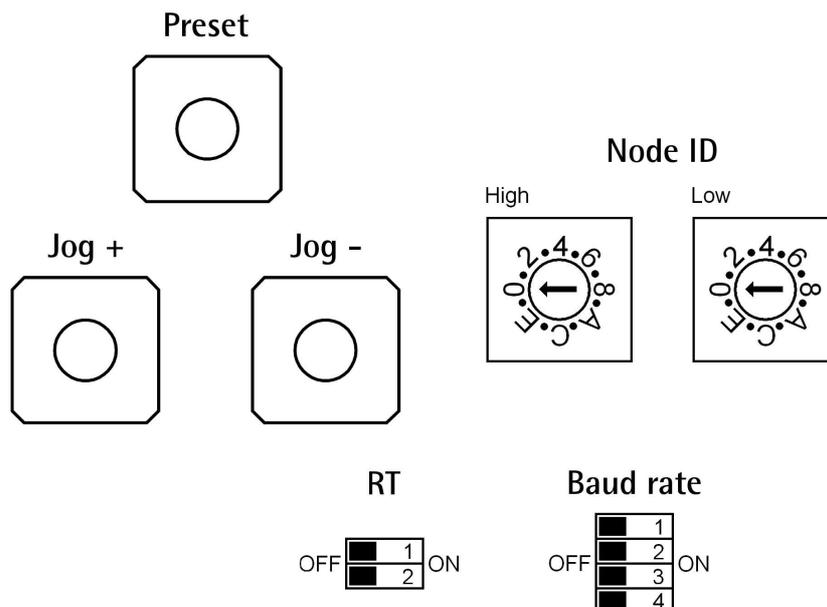

Figure 5: Dip-Switches and buttons
4.4 Dip-Switches and buttons (Figure 5)
4.4.1 Setting the node address: Node ID (Figure 5)
4.4.2 Setting data transmission rate: Baud rate (Figure 5)
4.4.3 RT bus termination (Figure 5)
4.4.4 JOG + and JOG - buttons (Figure 5)
4.4.5 PRESET button (Figure 5)